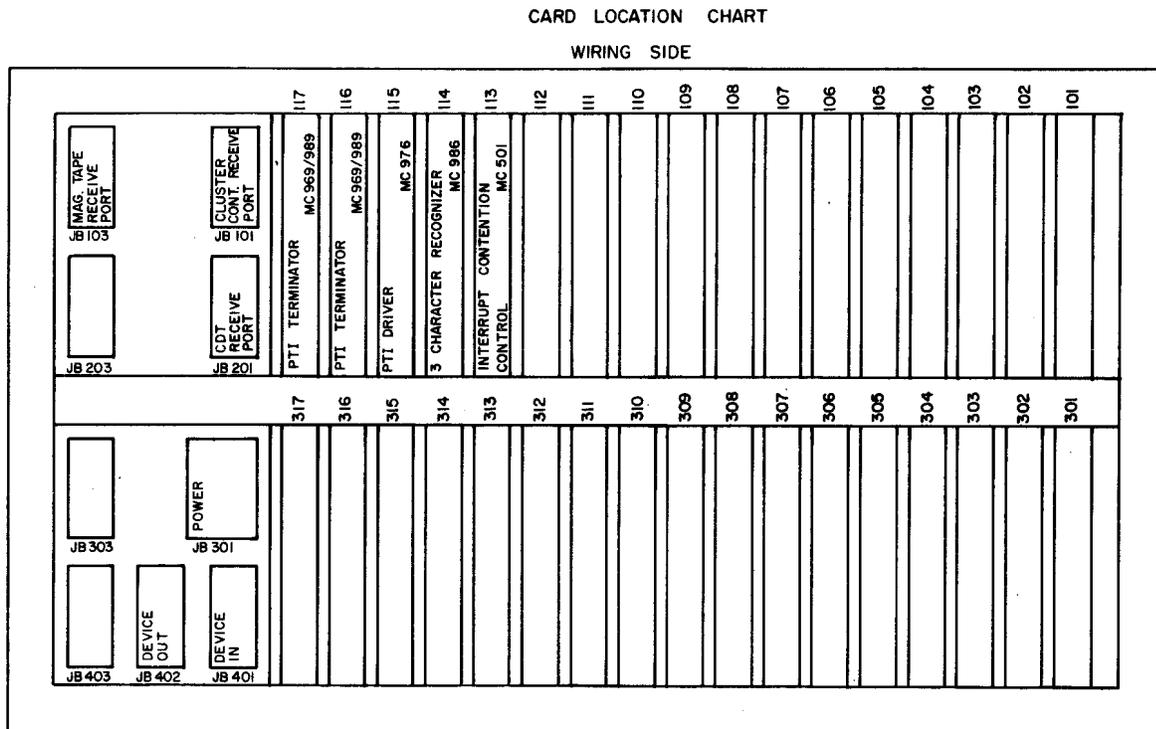

Figure 1 - CDIF810 Interface Module (Viewed From Wired Side)
3.01 Visual checkout should be as follows (Figure 1):